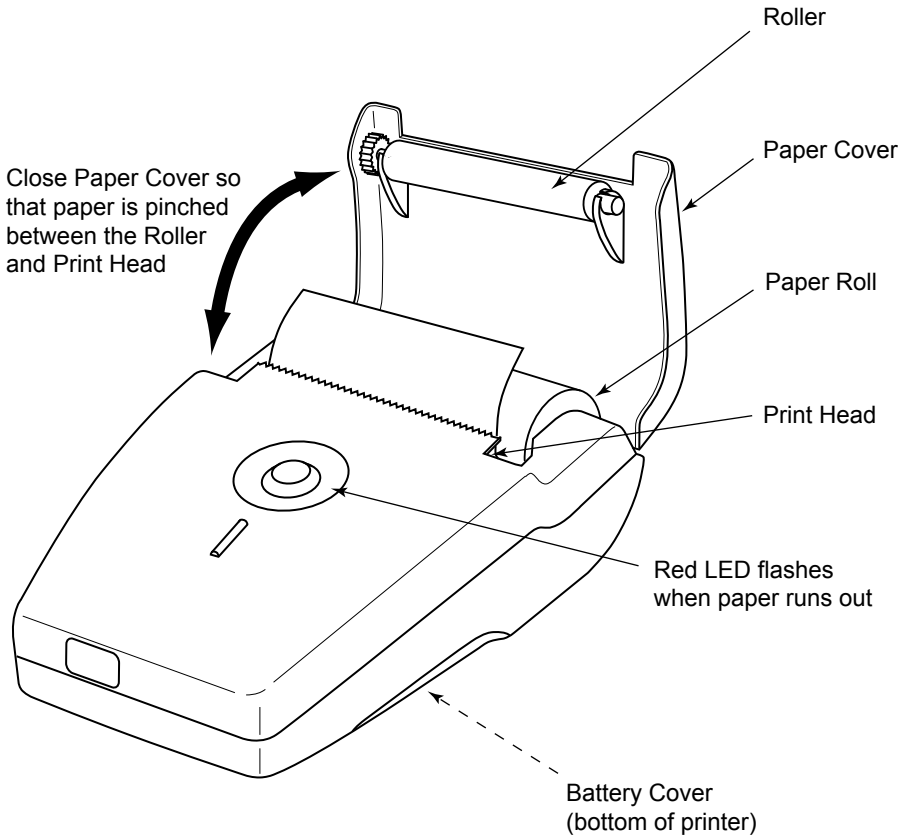

Figure 3. Maintenance
1. Open paper cover as shown in Figure 3.